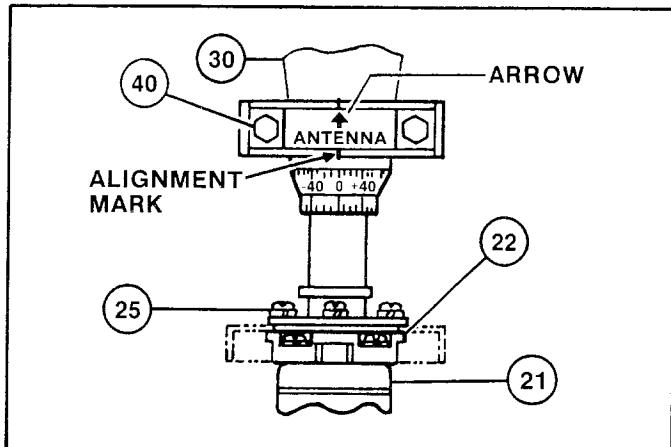

FIG. 2.0 - POLARIZATION OF THE FEED
- (1) Polarization of the feed (Ref. Fig. 2.0).
Polarization of feed is obtained by using a 10mm nut driver and loosening two M6 x 20mm clamp bolts (40) and turning feed. Align alignment mark on clamp with "O" (zero) mark on horn scale (Ref. Fig. 2.0). The polarization setting for the satellite is shown on Pages 11-14. Make sure clamp is installed with arrow pointed toward antenna as shown in Fig. 2.0. Keep cable grove on header in the down position when adjusting polarization.